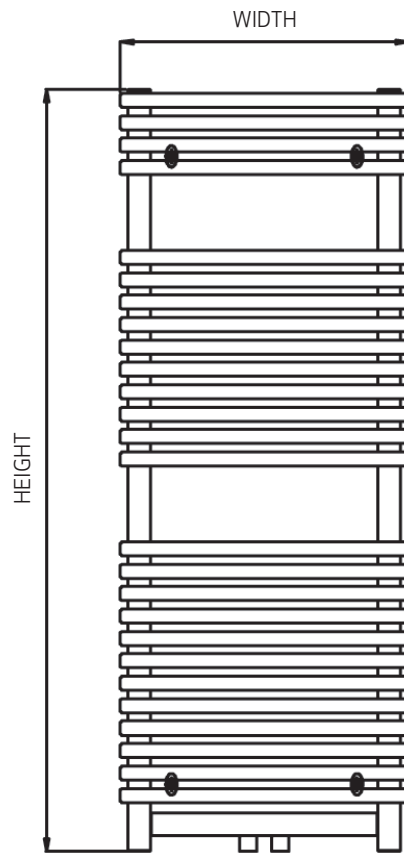
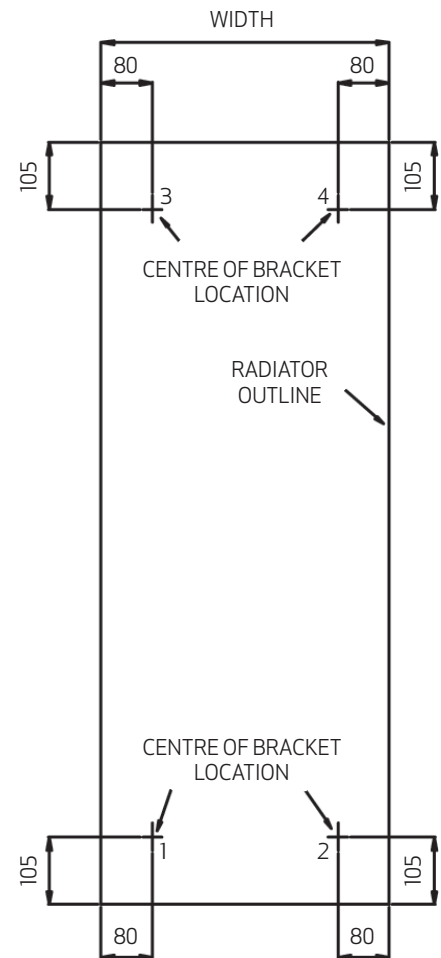

FIG. 1
FIG. 2
2. Choose the location where you wish to install the towel rail and mark the positions for the wall brackets with a pencil as indicated in FIG. 1.
3. Measure the width and height as indicated in FIG. 1.
4. Place part A of the wall brackets over the pencil marks on the wall as shown by points 1, 2, 3 & 4 in FIG. 1 and mark the position of the wall plugs and screws, as indicated in FIG. 2.